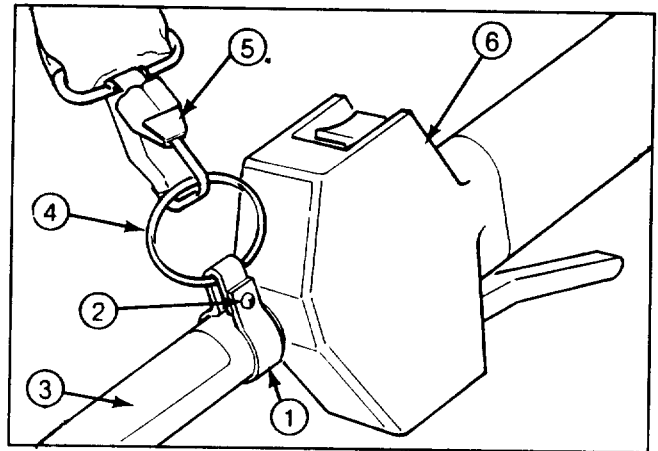

Figure 2
## ATTACH OPTIONAL HARNESS AND CLAMP (Fig. 2 & 3)
1. Install clamp over drive shaft tube between throttle trigger housing and decals (Fig. 2). Tighten clamp securely in place with screw and nut.